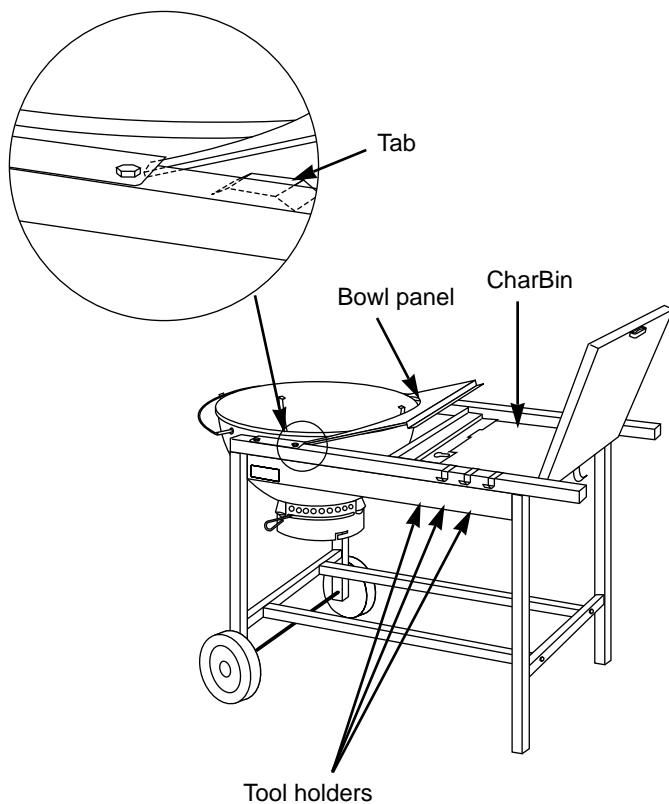

Figure 8
**Remove protective plastic covering from bowl panel.** Slide the ends of bowl panel under bowl mounting brackets so the ends rest on tabs inside frame. Set the panel in place on top of the frame brace. Figure 8.
Hook the tool holders over the frame rail. There is a cut out on the right side of the front panel to accommodate the tool holders. Figure 8.